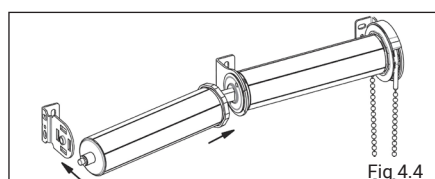

Fig 4.4
4. Install slave blind by inserting the female drive into the square male drive. Complete blind installation by pushing in the retractable pin with a flat screwdriver and popping the pin into the bracket hole (Fig 4.4).